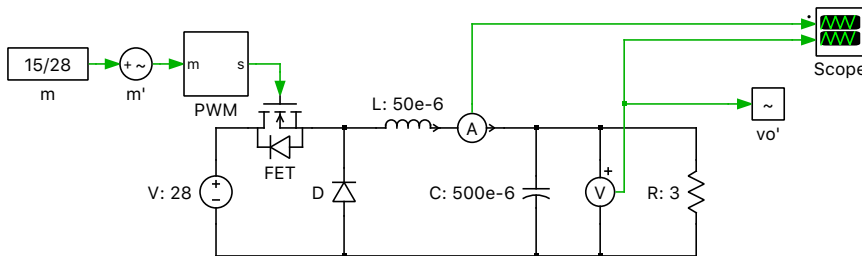

Figure 6: Schematic of the buck converter with small signal blocks
In this section, let's calculate the duty-ratio-to-output voltage transfer function of the buck converter shown in Fig. 6 using the PLECS Analysis Tools.
At this stage, your model should be the same as the reference model, `analysis_tools_openloop_1.plecs`. Your schematic should be as the one shown in Fig. 6.
For a periodic system like the one shown in Fig. 6, the Impulse Response method should be used to determine the open-loop transfer function because it's faster and computationally less expensive than the AC Sweep.
- 7 Choose the **Perturbation** and the **Response** blocks that should be active during this analysis. These should be the m' and vo' blocks, respectively, from Fig. 6.